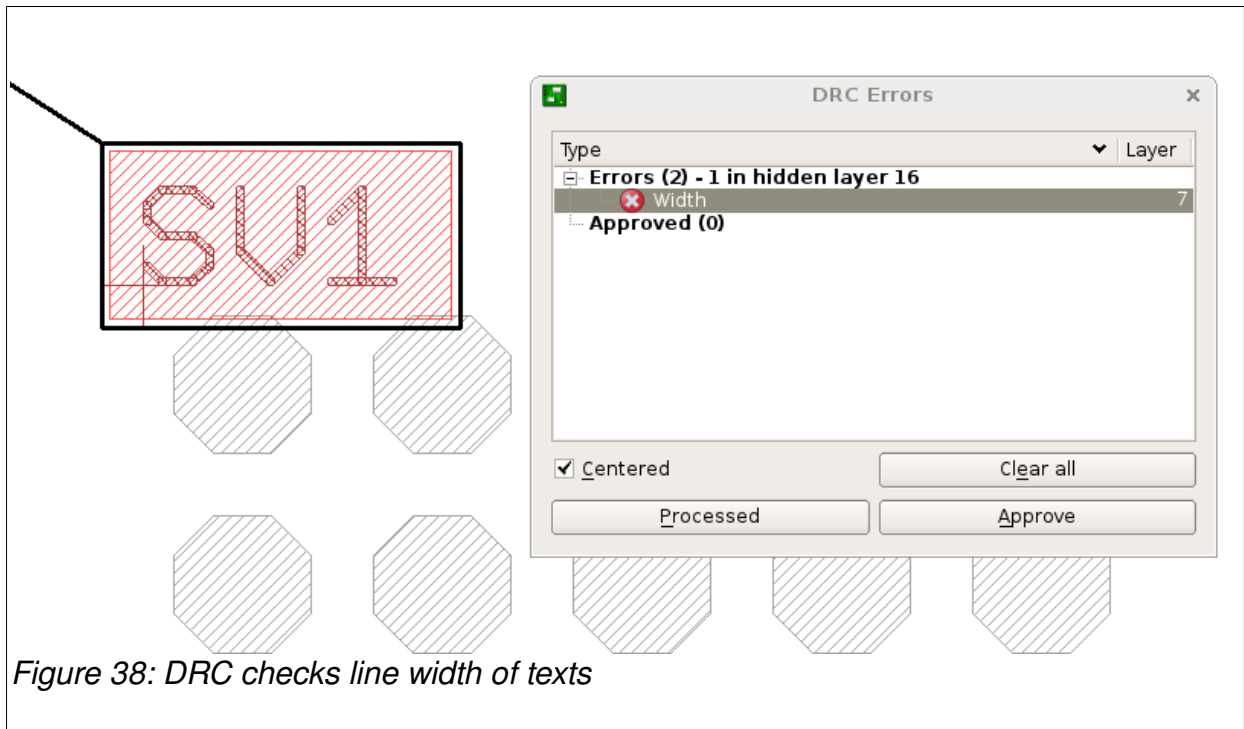

Figure 38: DRC checks line width of texts
7. Now run DRC again. Now that the names of the parts are in a copper layer, the DRC checks for a minimal line width of 0,125mm - in my example here. See Figure 38. The DRC may output lots of overlap-errors which result from the texts overlapping with inner-layer vias and pads. Just ignore these errors and look for width-errors, for they belong to texts drawn with a ratio too small to meet your constraints.
9. Transpose the group back into layer tNames (25) and you are done.